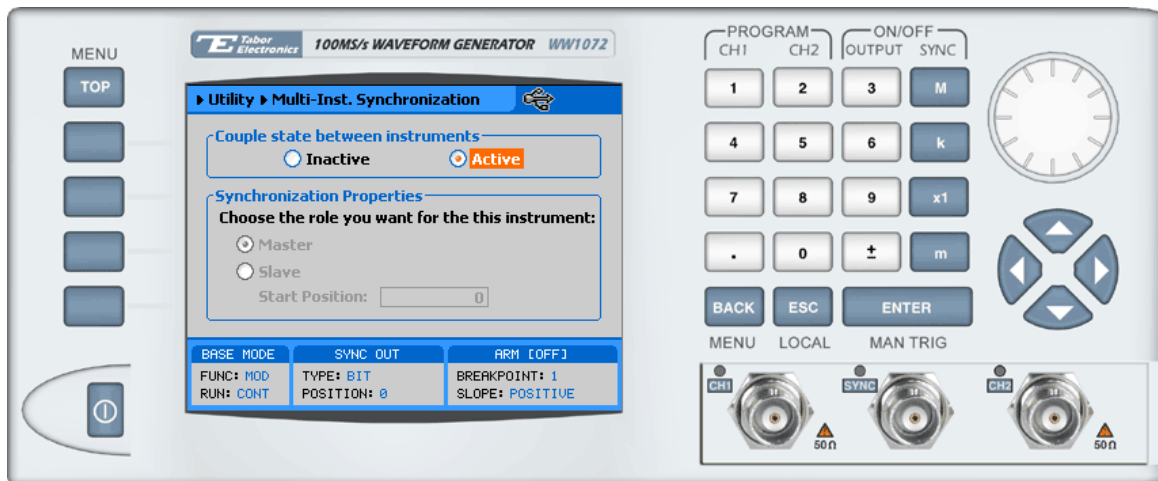

Figure 3-30, Setting up Master/Slave Parameters
Hard wiring the instruments from the back is not enough. You now have to set up the first instrument in the chain as master and the other instruments as slaves. Refer to Figure 3-30 and the following description to learn how to set 1072 instruments as master and slaves.
2. Select the Utility menu and scroll down to the Multi-Inst. Sync option. Press Enter and the dialog box as shown in Figure 3-30 will appear.